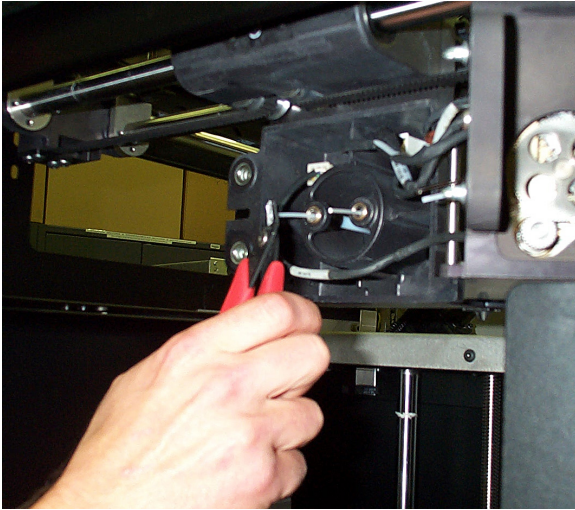

Figure 17. Materials coming out of feed tubes
**Both materials must be coming out of the feed tubes at the back of the head (see Figure 17 on page 50) and going into the drive block funnels in order to proceed with this step. If not, continue with step 3.**